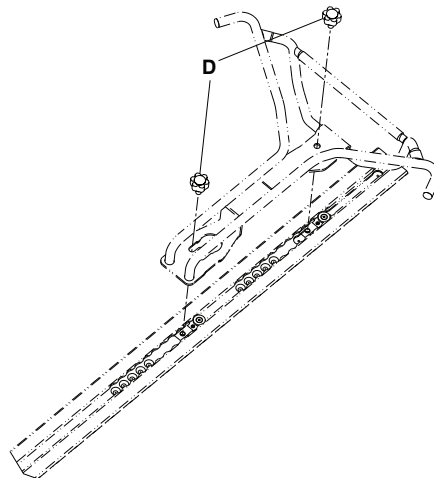

Figure 2 – Antler assembly with silver knobs (6390-001-033)
3. Install the two silver knobs (6390-001-033) to fasten the antler assembly (Figure 2). To install the Universal floor plate, see the Installing the floor plate instructions (6390-001-020).